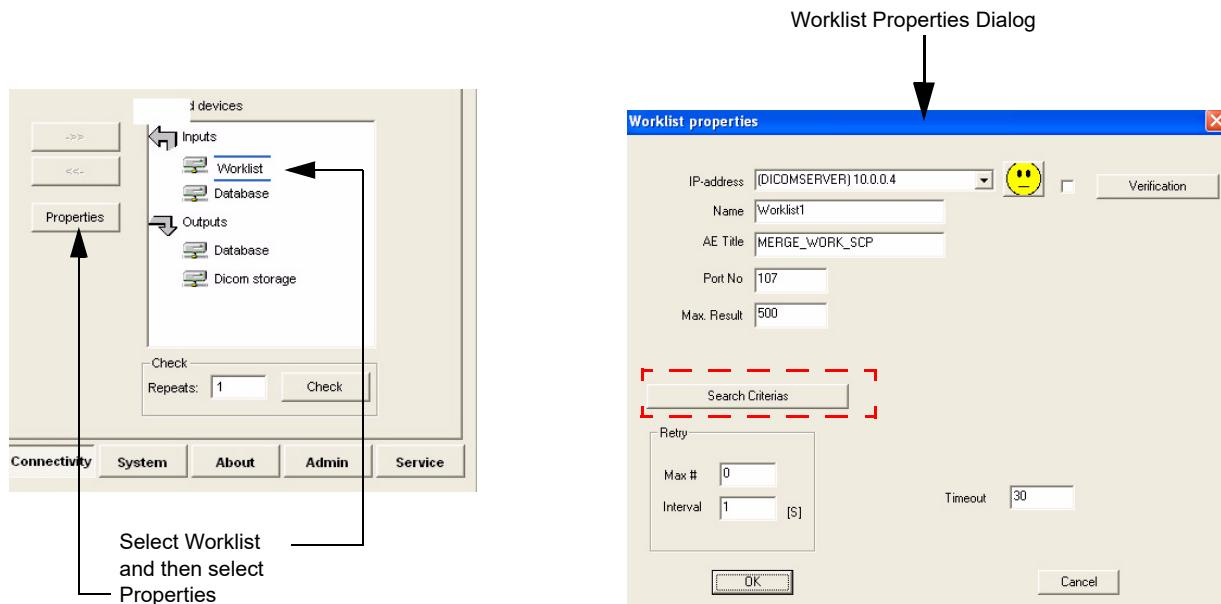

Figure 3-72 Select Worklist Properties Dialog Box
- 7.) Click on "Search Criterias" (Figure 3-72).
The Search Criterias window opens (Figure 3-72).
- 8.) Highlight the modality filter in the list and click on "**Remove**" (see Figure 3-72).